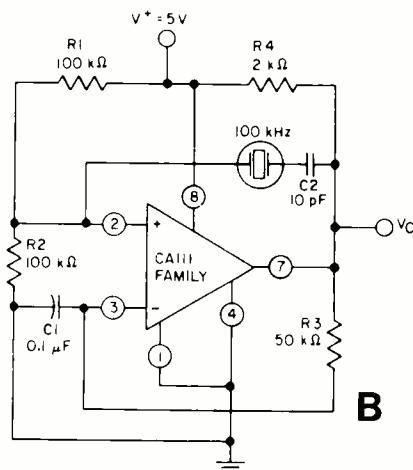

Fig. 2. A 100-kHz free-running multivibrator (A), and 100-kHz crystal-controlled oscillator (B).
Two 100-kHz signal sources are illustrated in Fig. 2—a free-running multivibrator featuring a square-wave output signal at (A) and a crystal-controlled oscillator at (B). Each requires but a single IC and is designed to operate on a single-ended 5-volt dc source. The multivibrator may be used as a clock source in counters and timers or even as part of a secondary frequency standard.